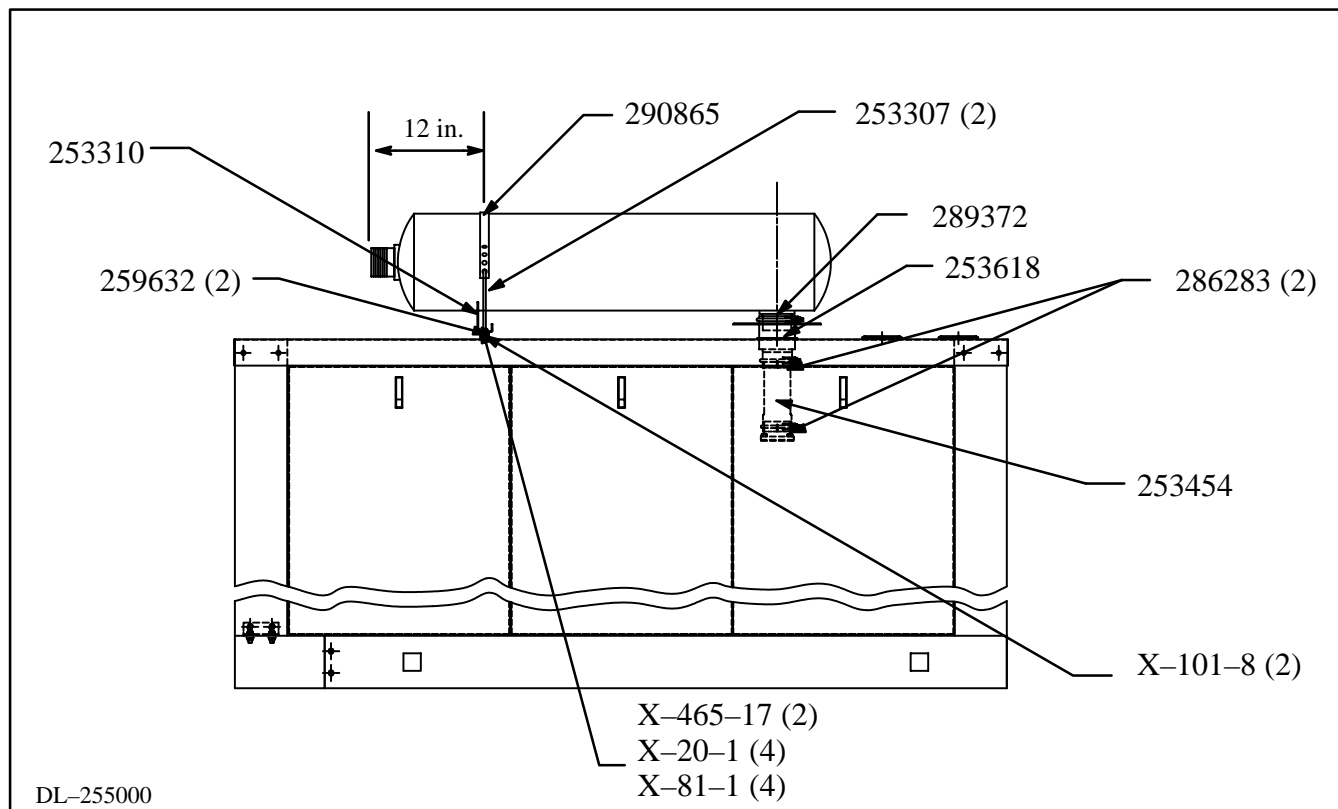

Figure 1. Silencer Mounting
The Silencer Mounting Kits are intended for installation on a housed generator set. Silencer Mounting Kits do not include silencers. Refer to the installation instructions and follow all safety precautions when assembling. See Figure 1 and Parts Listing for identification and location of parts.
5. Place silencer bracket (253310) underneath silencer and position it approximately 12 inches (305 mm) from end of silencer outlet, see Figure 1.